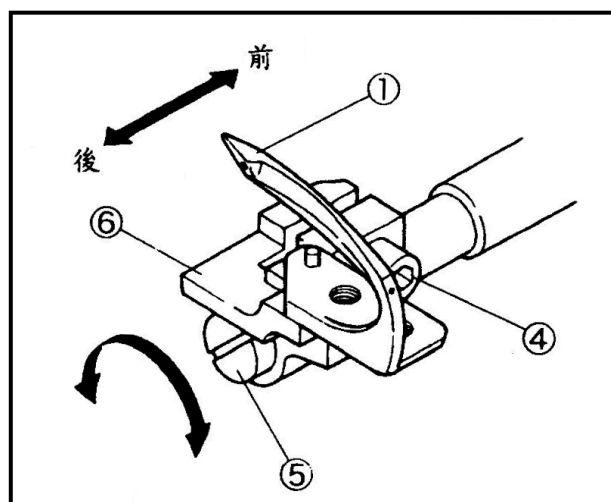

Fig.54
當下勾針①移動從左到右，會在針的後面。調整其位置使下勾針更接近針，其間隙 0-0.05mm，但不能碰到針，當下勾針的尖端在左針的中間時，放鬆螺絲④轉動螺絲⑤調整前後位置。調整之後檢查間隙和鎖緊螺絲④。(Fig.54, 55)
- 順時間旋轉螺絲⑤會往前。
- 逆時間旋轉螺絲⑤會後後。
When the looper① moves from the left to the right, it passes behind the needle. Adjust the position so that the looper comes closely to the needle with the clearance of 0-0.05 mm but without touching them when the looper tip comes at the center of the left needle. Loosen the screw④ and turn the adjusting screw⑤ to adjust it. After adjusting, check the distance and tighten the screw④ securely. (Fig.54,55)